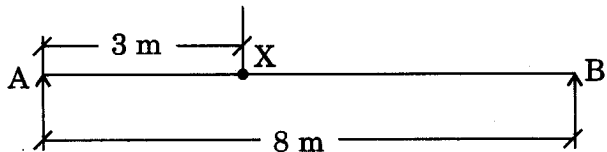

Figure 5
6. Draw the influence line diagrams for B.M. and S.F. at a point X in the simply supported beam AB of span 8 m, shown in Fig. 5.